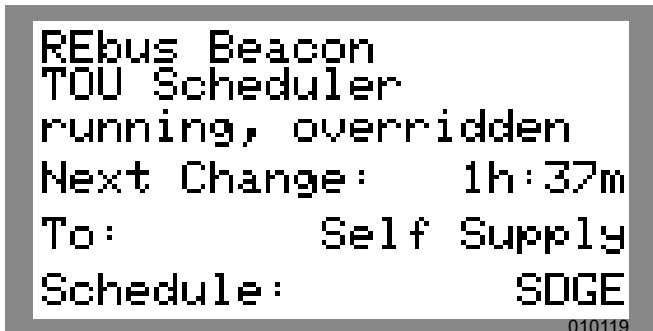

Figure 6-23. Overriding Scheduler
- See Figure 6-23. Running, Overridden will display on the Generac Beacon device page.